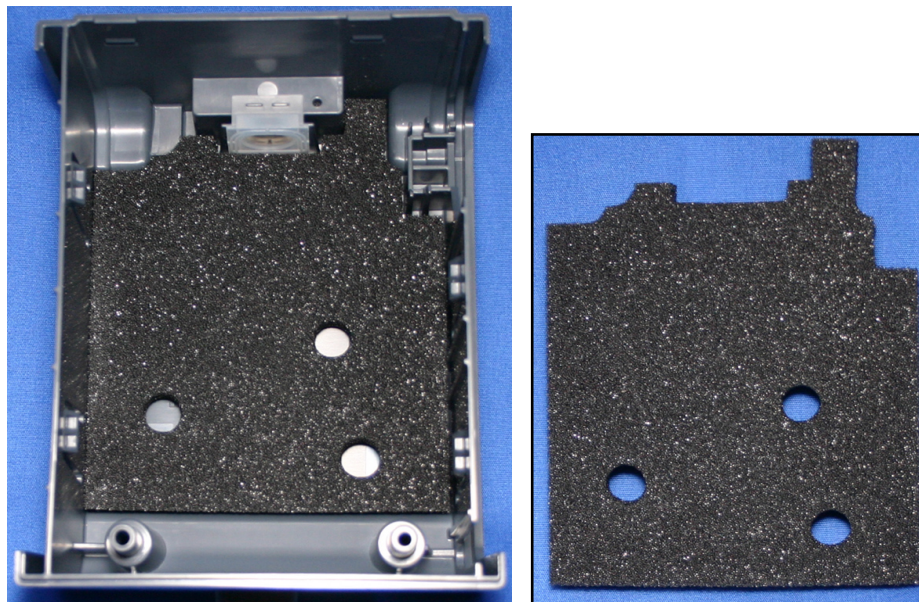

FIGURE 6-19: SOUND ABATEMENT FOAM
1. Place the Foam in the Bottom Enclosure as shown in Figure 6-19.